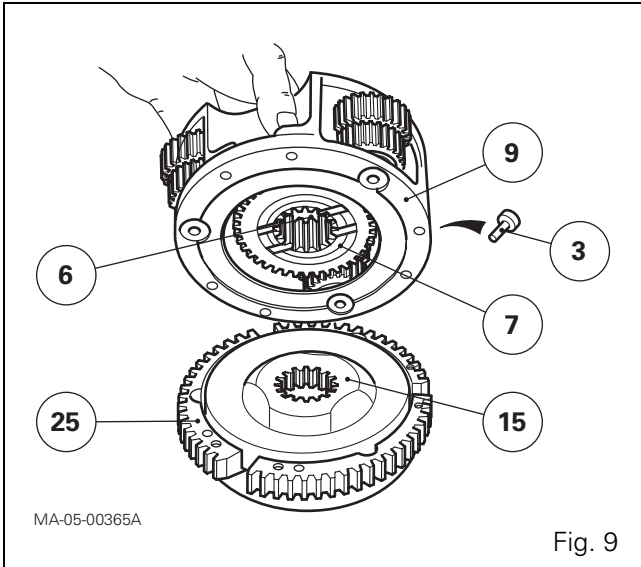

Fig. 9
- 17.** Put the planet carrier assembly on a workbench with the unit (9) turned upwards.
- 18.** Remove the screws (3).
- 19.** Separate the unit (9) from the hydraulic cover plate (25) while holding sun gears (6) and (7) (Fig. 9).
47. Install the splined hub (15) as shown in Fig. 9.
48. Install an intermediate plate (30), a disc (42) and a spring washer (43). Continue stacking parts, ending with an intermediate plate.